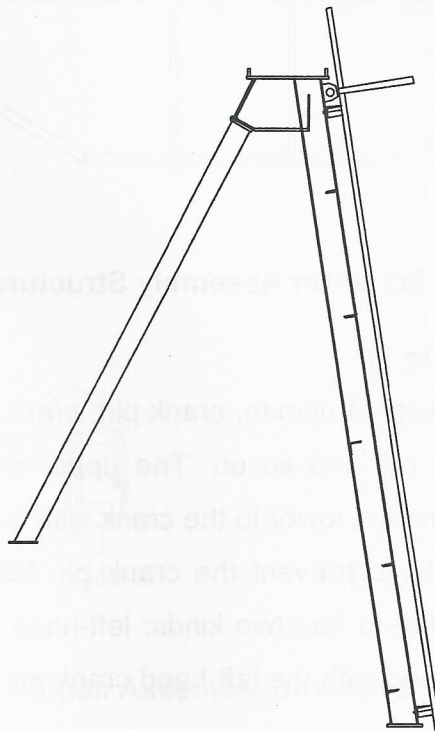

Fig.4: Sampson Post Assembly Structural Sketch
3.2.3 Sampson Post Assembly (Fig.4)